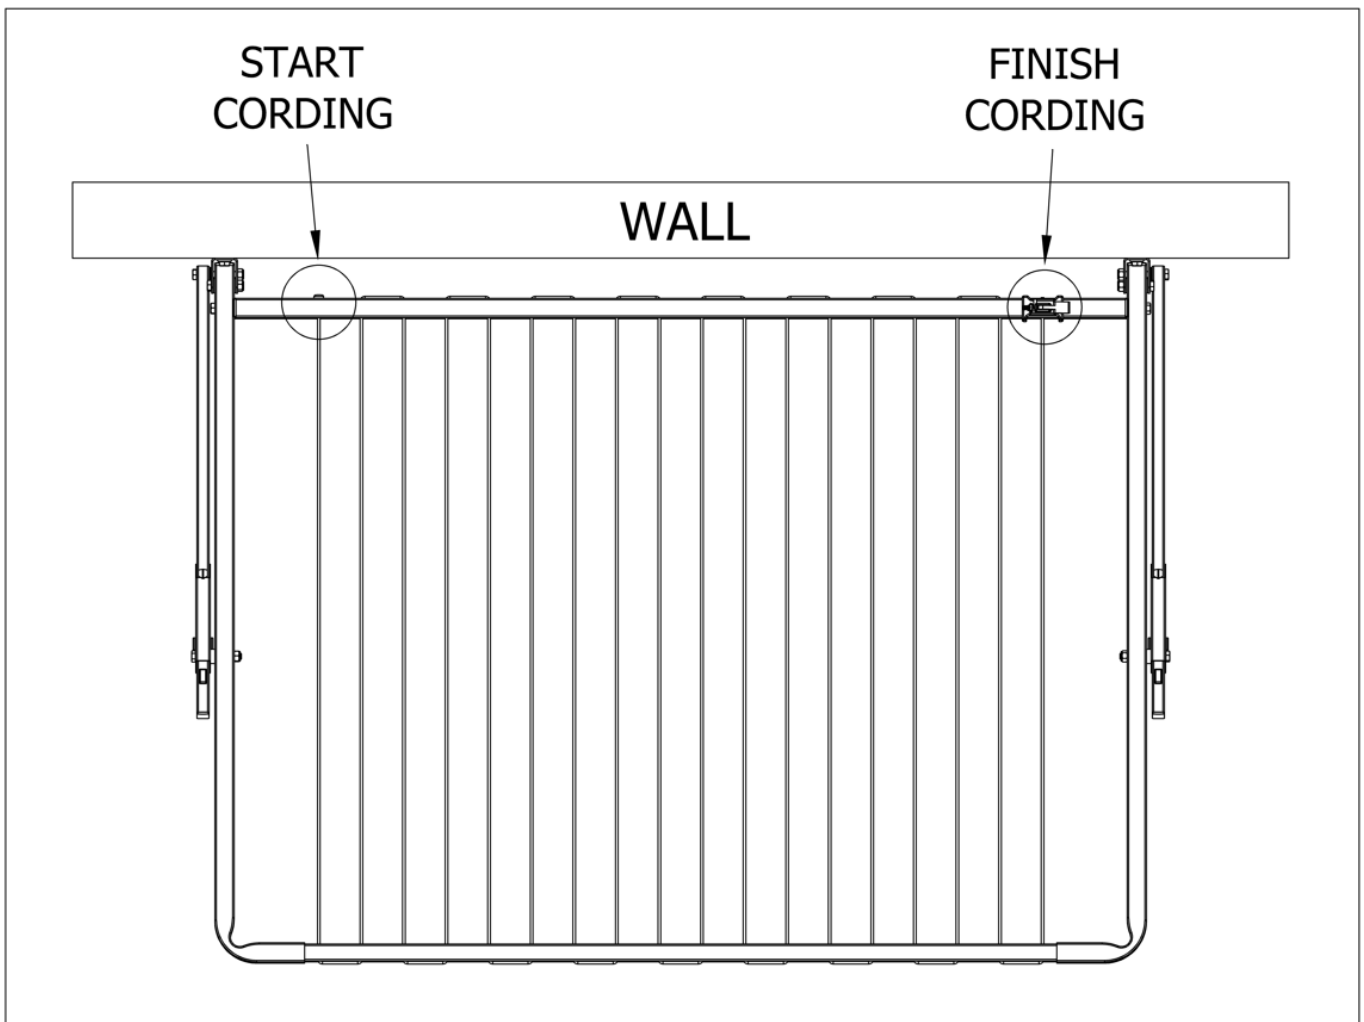

Fig 4. Fit cord to Balcony Line as above.
9. Start cording at the rear left-hand hole, tie a knot in the cord and pull it inside the Ø10.5mm hole. (Fig.4)
10. Working from back to front, finish at the rear right of the clothesline at the L.T.L. (Fig.4)